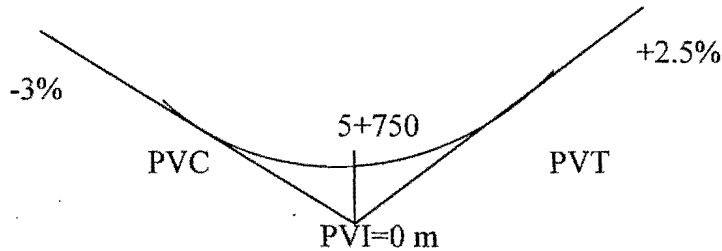

Figure. 1 A Sag Vertical Curve
- 1.(a). From the Figure.1, using the headlight criterion, determine the station elevation of the PVC and PVT for a design speed of 120 kph. Assume $f_c = 0.31$, $H = 0.67$, headlight are aimed upward at an angle of 1 degree and draw a diagram with the values of your solution. **12 points**